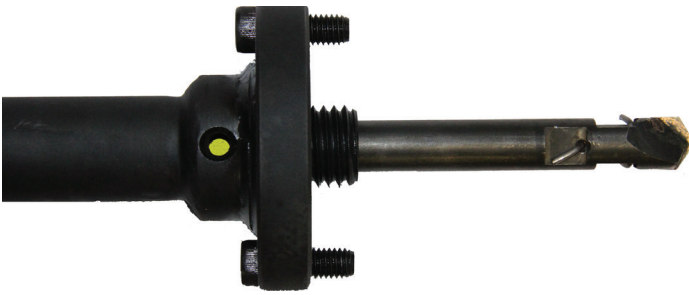

Figure 5
2.3.8) Confirm you have completely inserted the pilot drill and engaged the tapered flat. Look into set screw hole for the marking on the pilot drill. Adjust the pilot drill until you can see the marking (see Figure 5 on next page).